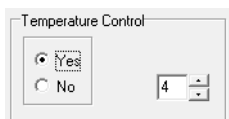

Figure 6-25: Setting tray temperature.
19. Set the tray temperature (Figure 6-25). ProteinSimple recommends cooling the tray to 4 °C.